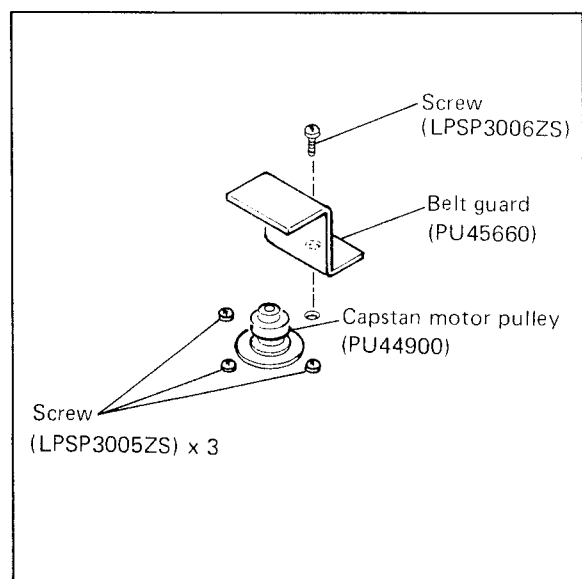

Fig. 5-15 Capstan motor replacement
1. Remove the four screws and belt guard from the chassis as shown in Fig. 5-15.